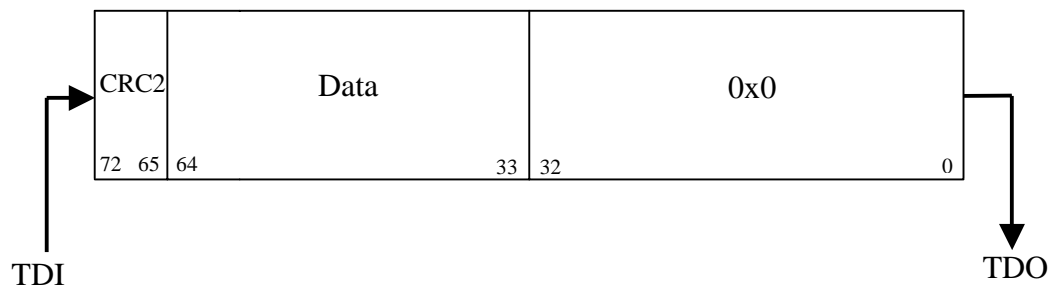

Figure 5: OpenRISC Debug Interface Scan Chain (data shifted out)
- CRC2 (Figure 5: OpenRISC Debug Interface Scan Chain (data shifted out)) is shifted out. It is calculated from the address and the R/W that were shifted in and data that is shifted out (data read from register).